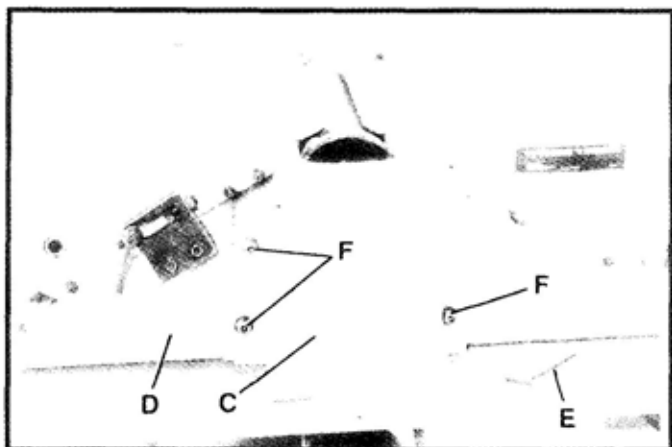

Fig. 14
2. Using the supplied wrench (E), fasten mounting bracket (C) Fig. 14, to the jointer with four M8 × 55mm long hex socket head screws, lockwashers, and flat washers (F), three of which are shown.